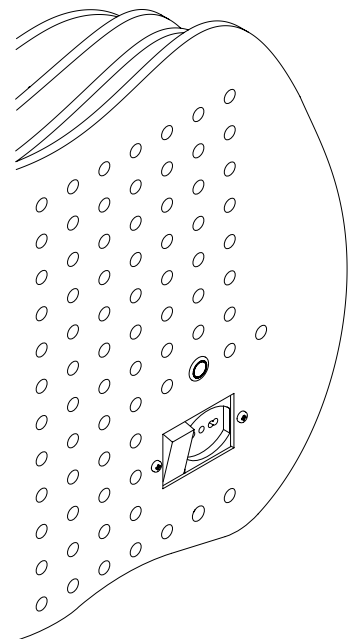

Figure 10.
- Finally attach the socket and switch and make cable connections (Figure 10)